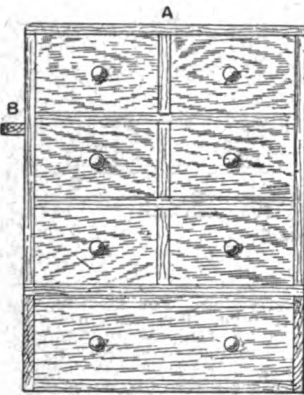
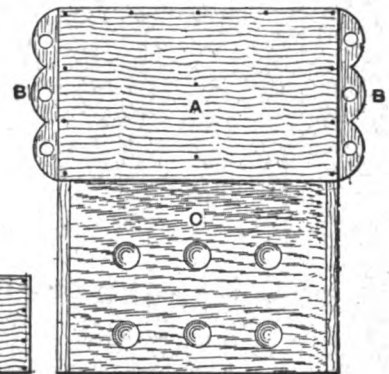

FIG. 1
FIG. 3
**Making Photographic Printing-out Paper.**—No one, unless he is likely to be a large consumer and able to afford a proper apparatus, should attempt to make P.O.P. The paper is sold so cheaply that it could only be made in large quantities at the same price; and expensive plant and long experience are necessary to ensure good results. Prepare two solutions. (A) Ammonium chloride 50 gr., Nelson's No. 1 gelatine 160 gr., Heinrich's hard gelatine 300 gr., distilled water 20 oz. (B) Silver nitrate 150 gr., distilled water  $\frac{1}{2}$  oz. Dissolve the gelatine in 4 oz. of water, warm and add the remainder; then add solution (B) a little at a time, stirring thoroughly between the additions. Allow the emulsion so formed to set, then wash by squeezing through mosquito netting, and washing or soaking in a few changes of distilled water. The shreds must then be well drained, melted down, and the emulsion is ready for use. The paper is unrolled over the surface of the emulsion, which is placed in a trough or a dish tilted to an angle.
**Making Cells for Optical Work.**—By following these instructions amateurs who have a small lathe not adapted for screw-cutting, and who are not adepts in the use of chasers, can make the brass cells and similar work for microscopes, telescopes, etc. The apparatus here described will turn and cut the threads without displacement, thus ensuring perfect centring, without which the best lenses will give unsatisfactory results. To hold the cells, etc., use boxwood chucks fixed on iron face-plates. A hole is drilled truly in the centre of the chuck while in the lathe. Into this hole fits a turned iron or steel mandrel of the shape shown at Figs. 1 and 2. The part O should be a tight working fit in the boxwood chuck. The poppet end of the mandrel has a thread cut on it of a pitch suitable for optical work. Fig. 3 shows the complete mandrel and tool-rest. The hole B (Fig. 2) is tapped to receive the screw that regulates the cut of the tool, while into the hole A (Fig. 2) slides the guide; and the set-screw E (Fig. 3) takes up any shake in the rest. To complete the tool-rest, pieces F (Fig. 3) to carry the tool and G for the handle end will be required. The ordinary poppet must be discarded; in its place use a wrought- or cast-iron poppet, made as shown in Figs. 4, 5, and 6. The hole H (Figs. 4 and 5) receives the bush I (Fig. 6), which is drilled and tapped to suit the screwed end of the mandrel M. J and K are nuts, and L is a handle made fast to the mandrel; it actuates the cut of the tool longitudinally. N (Figs. 4, 5, and 6) is the hole used for bolting down the poppet. When facing, boring, or turning a cell, etc., the nut J is released and the nut K is
**Cabinet for Beadwork.**—The cabinet or workbox here described is suitable for holding beadwork articles. It can be made of deal, and almost enough wood can be obtained from an old cube-sugar box; this, when sandpapered, stained, and varnished, will repay the time and labour expended. The following pieces will be required for the top case A (Figs. 1, 2, and 3). Two, 11 in. by 7 in. by  $\frac{1}{2}$  in., for the top and bottom; two, 10 in. by 7 in. by  $\frac{1}{2}$  in., for the sides; two, 10 in. by 6 in. by  $\frac{1}{2}$  in., for the shelves; one, 10 in. by 6 in. by  $\frac{1}{2}$  in., for the vertical partition; six, 5 in. by 3 in. by  $\frac{1}{2}$  in., for the fronts of the drawers; twelve, 6 in. by 3 in. by  $\frac{1}{2}$  in., for the sides of the drawers; six, 4 in. by 3 in. by  $\frac{1}{2}$  in., for the backs of the drawers. The bottom for the drawers should be cut to fit the inside of the framework. The racks B (Figs. 1, 2, and 3) are 7 in. by 1 in. by  $\frac{1}{2}$  in., and should have three holes bored in them to hold the tools. To make the desk C (Fig. 3), use two pieces of wood, each 15 in. by 4 in. by  $\frac{1}{2}$  in., for the sides; one piece, 8 in. by 10 in. by  $\frac{1}{2}$  in., for the top; one, 10 in. by 15 in. by  $\frac{1}{2}$  in., for the bottom; one, 10 in. by 14 in. by  $\frac{1}{2}$  in., for the back; one, 10 in. by 3 in. by  $\frac{1}{2}$  in., for the front of the drawer; two pieces, 14 in. by 3 in. by  $\frac{1}{2}$  in., for the sides of